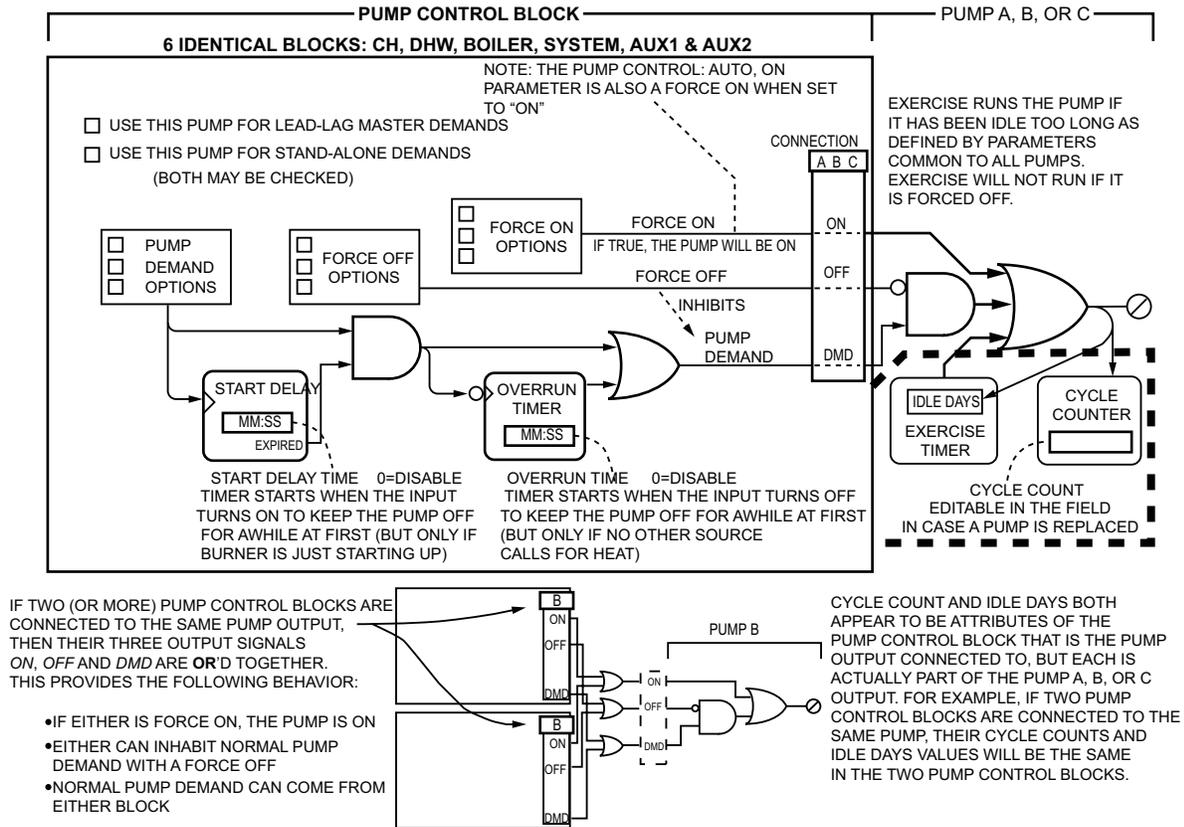

Fig. 22. Pump control block.
- **Normal pump demand:** These bits are in the lower left of Fig. 22, and each of them enable or disable pump demand that flows through the start delay and overrun time, to the “On” connection of the physical device as shown in Fig. 22. This form of pump demand may be inhibited by Force Off.
Fig. 22 shows how a pump control block works when connected to a pump output. The Pump On Options determine the sources that normally turn the pump on. These may be modified by an optional Start Delay and an optional Overrun Time. However, this normal pump on demand may be inhibited by the Force Off options. No matter what the normal Pump On Demand, or the Force Off conditions are requesting, there are Force On options that always turn the pump on.
XX pump output	None, Pump A, Pump B, Pump C This allows the XX pump function to be disconnected or to be attached to any of the pump outputs. If two pump blocks are connected to the same pump output then their signals are effectively OR'd together as shown in Fig. 22.